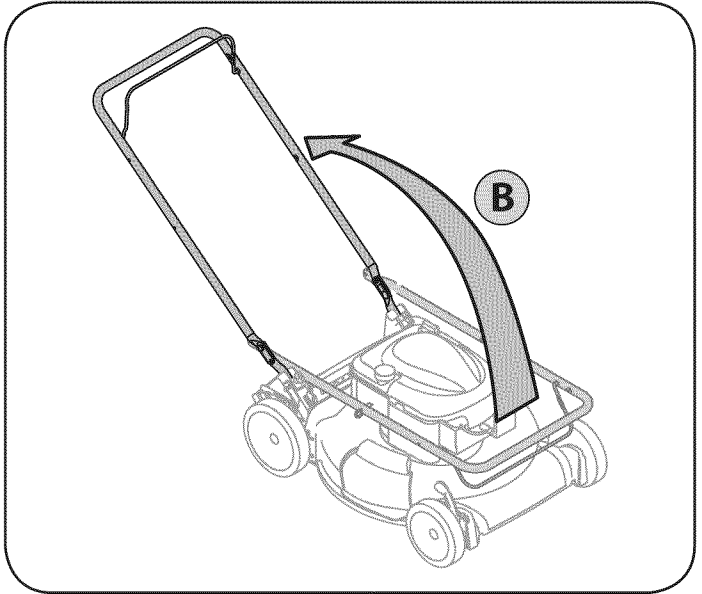

Figure 2
- B. While stabilizing mower so it doesn't move, pivot upper handle up as shown in Figure 2. Do not crimp cable while lifting the handle up.